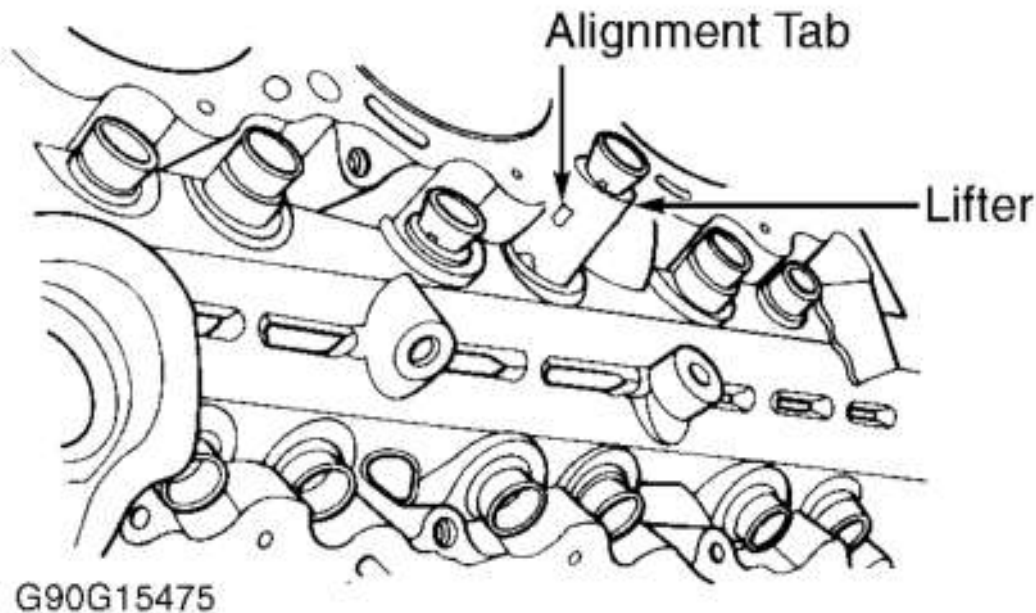

Fig. 7: Installing Hydraulic Lifters
1. Lubricate lifter and cylinder block bore with Oil Conditioner (D9AZ-19579-CA) or heavy engine oil. Install lifter in original location, with alignment tab in locating groove of bore. See Fig. 7. Ensure lifters slide freely in bore.